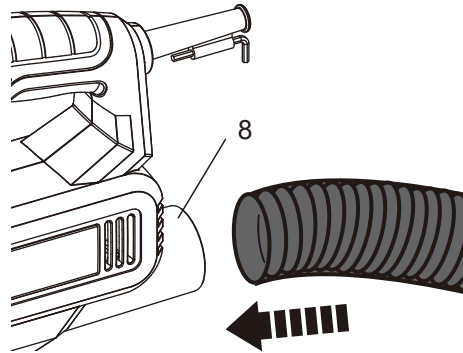

Fig. 3
Attach a proper dust extraction device, e. g. a suitable vacuum cleaner, to the dust extraction outlet (8) (Fig. 3).